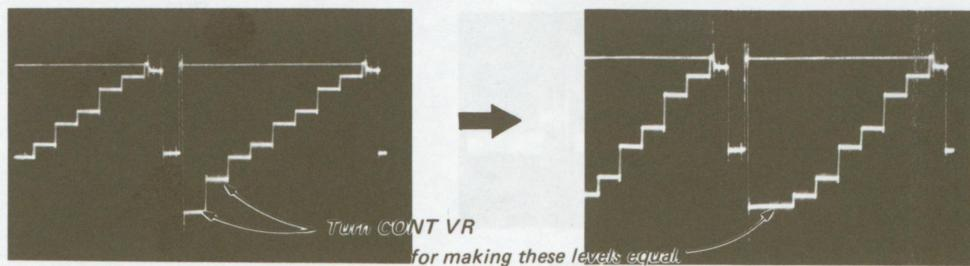

Fig. 5-93.
10. Remove the 75 Ω terminator and turn the CONTRAST knob so that the 100 IRE and the following white level become equal. (See Fig. 5-93.)